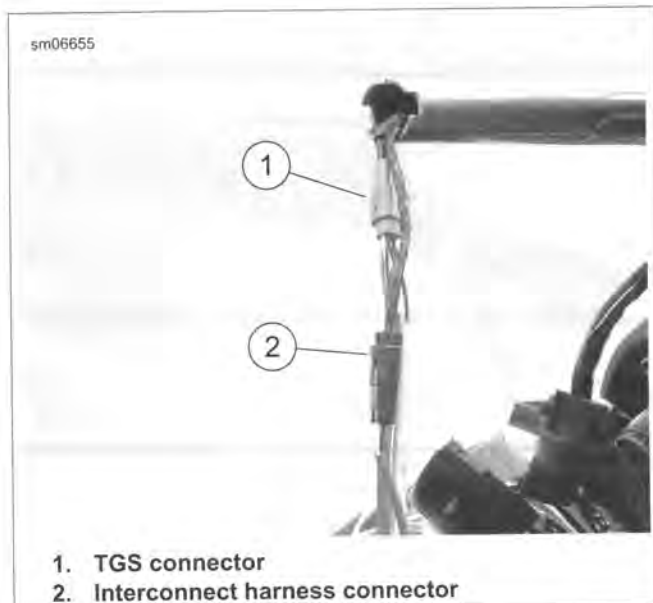

Figure 4-26. Heated Handgrip Connectors
10. See Figure 4-26. **Models with heated hand grips:** Separate the interconnect harness connector (2).
3. **Models with heated hand grips:** See Figure 4-26. Mate the interconnect harness connector (2).
- b. See Figure 4-26. Connect TGS connector.